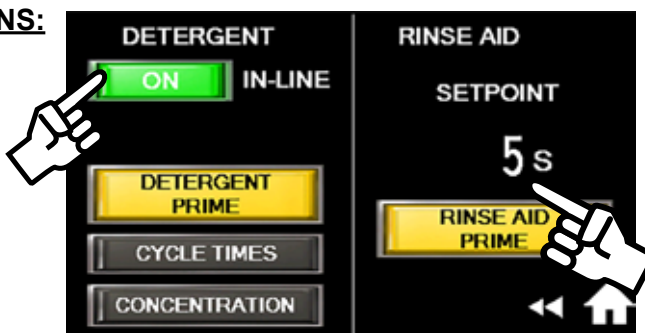

Fig.72 - Inline sensor selected.
1. Press 'INLINE' button to ON, (Fig. 72),
2. To change: press "5" as shown in the, Fig. 72) example.